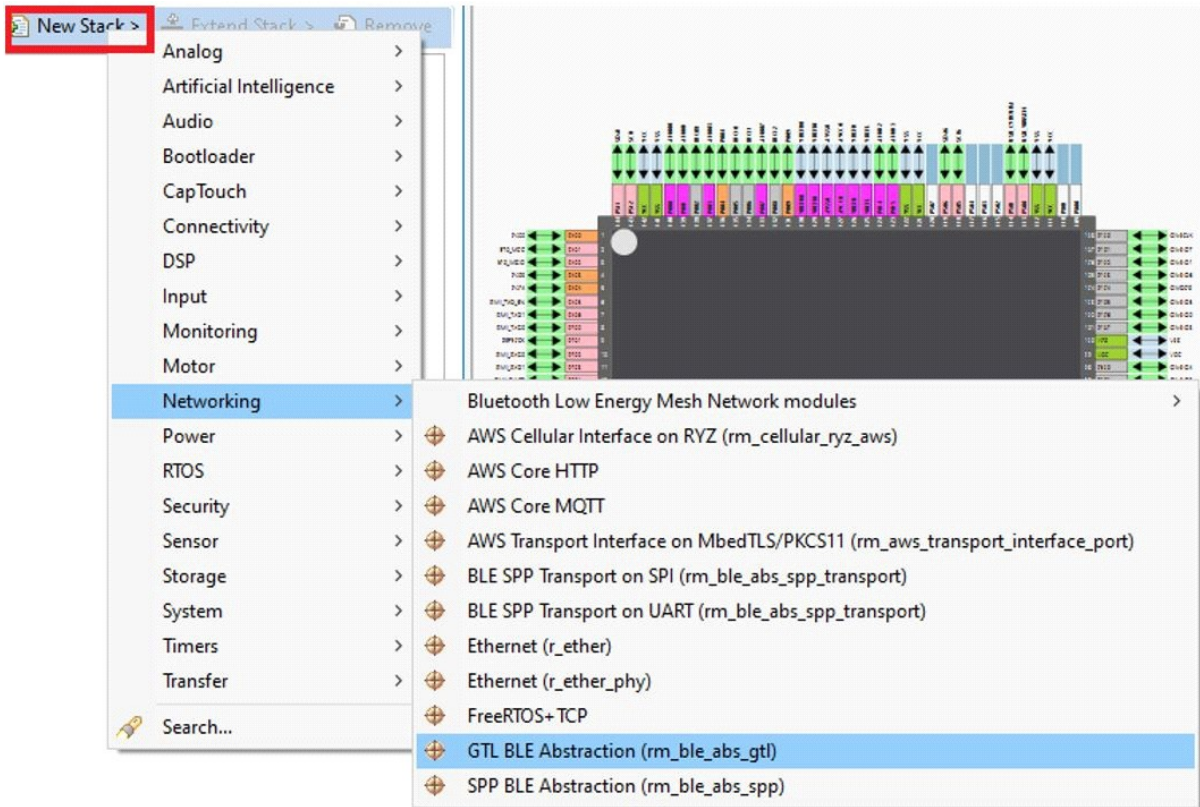

Figure 10. New Stack – Networking Menu
- Select the BLE Thread and open the **New Stack** menu. Select **Networking > GTL BLE Abstraction (rm_ble_abs_gtl)** (see Figure 10).